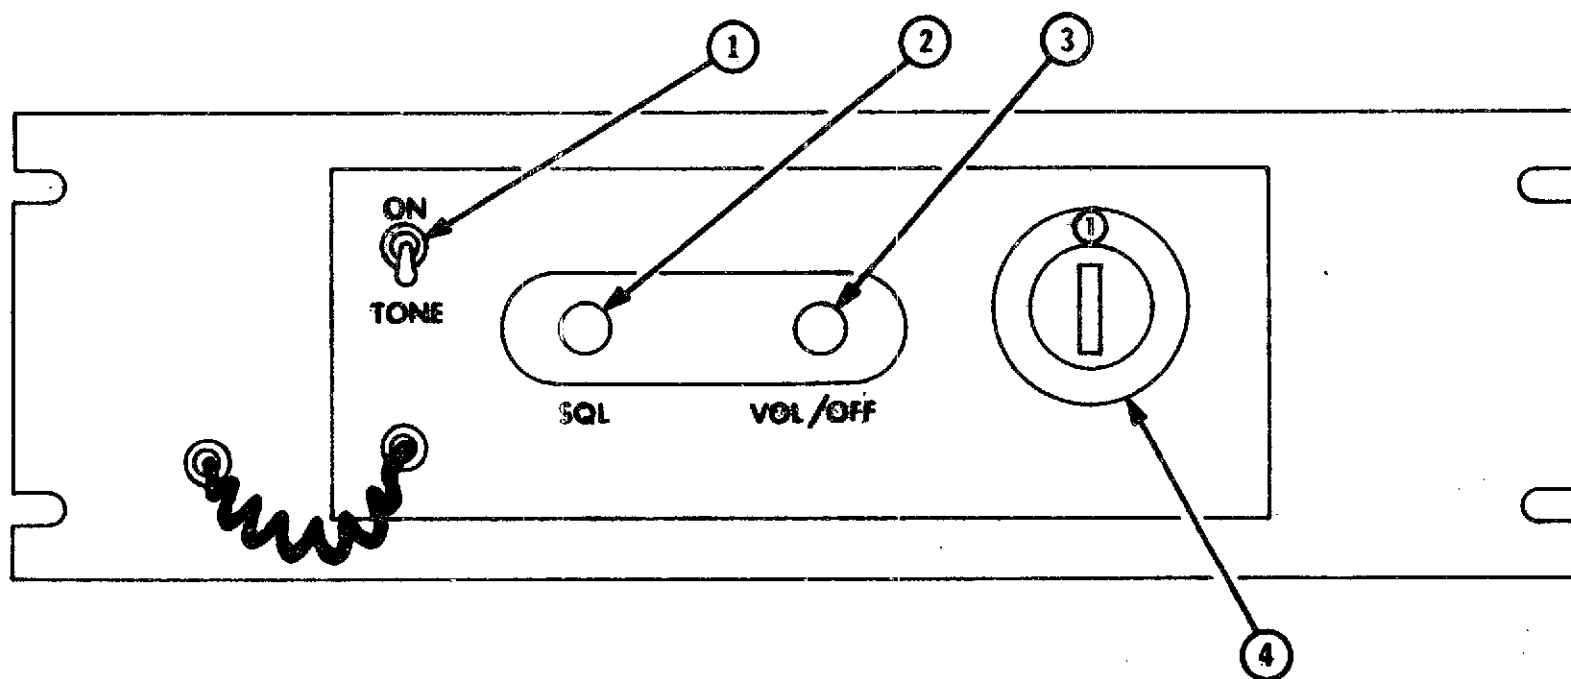

Figure 2-12. VHF Transmitter/Receiver (Standard SR-CB51T)
2.13 VHF TRANSMITTER/RECEIVER (FIGURE 2-12)